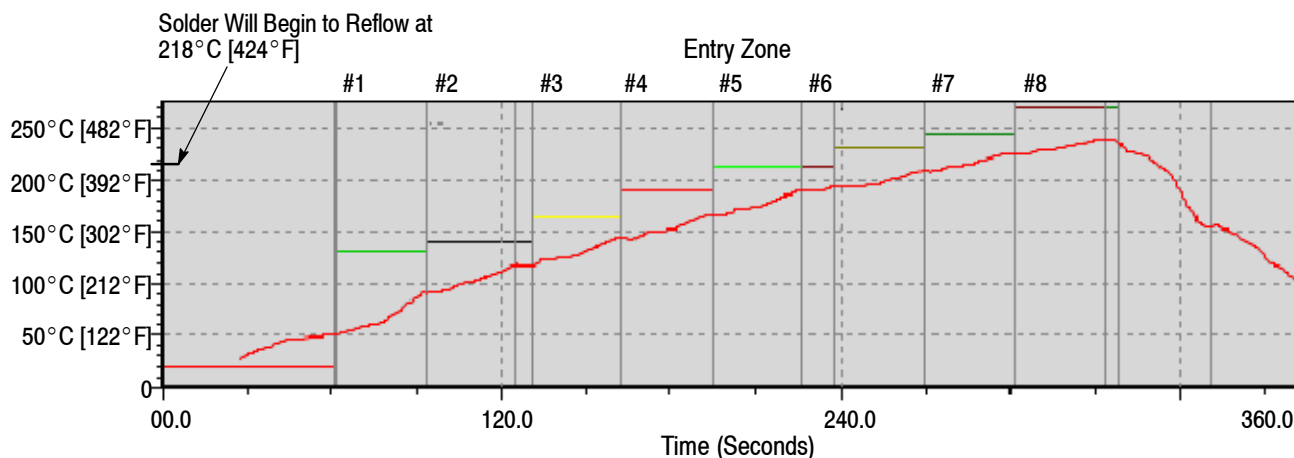

Figure 4
The connector must be soldered using non-focused infrared (IR) reflow or equivalent soldering technique. When mounting to both sides of the host pc board, adhesive must be applied to the alignment posts to retain the inverted part while going through the second pass reflow process. (Other options are mechanical retention with pallets or thermal shields to prevent the solder from turning to a liquid state.) Reflow temperature and time may vary depending on the size of the host pc board and placement of other components. The reflow temperature and approximate time to which the connector can be subjected is specified in Figure 4.